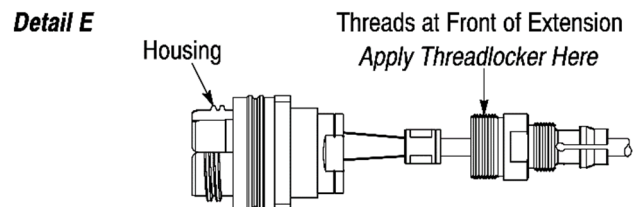

Figure 14
10. Push-fit the housing key onto the housing. Using the T-handle to hold the connector, apply 3 or 4 drops of threadlocker to the threads at the back of the housing. Refer to Figure 14, Detail A.
11. Reverse-thread the locking nut onto the housing. **These components have a left-hand thread.** The locking nut should capture the O-ring (installed in Step 6) and sit against the square-flange housing. Using the 26-mm open-end wrench, tighten the locking nut to a torque between 14 and 16 N·m. See Figure 14, Detail B.
13. Align the internal key (small bar inside) of the housing with the keyway (slot along the side) of the EB insert, and slide the EB insert into the housing. See Figure 14, Detail C.
14. Using the 3-mm hex wrench, push the EB insert into the housing until it bottoms (when bottomed, the front edge of the EB insert should be flush with the front seal). To avoid damage to the fiber, DO NOT push the fiber or cable to install the EB insert. Refer to Figure 14, Detail D.
15. Slide the wave spring over the crimp sleeve and into the housing. See Figure 14, Detail D.
16. Apply 3 or 4 drops of the threadlocker to the threads at the front of the extension. Refer to Figure 14, Detail E.